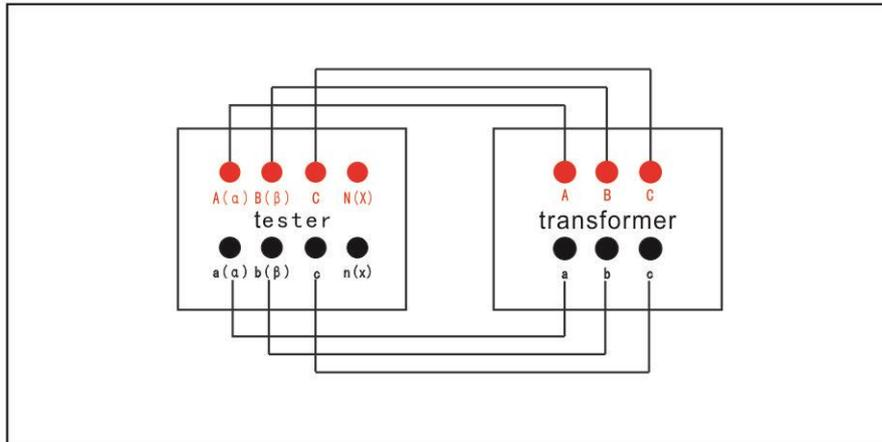

Figure 3
- The three-phase transformer is connected as shown in Fig. 3. The transformer neutral point N(n) is connected to the N(n) of the tester. If there is no neutral point, the N(n) of the tester is left unconnected.